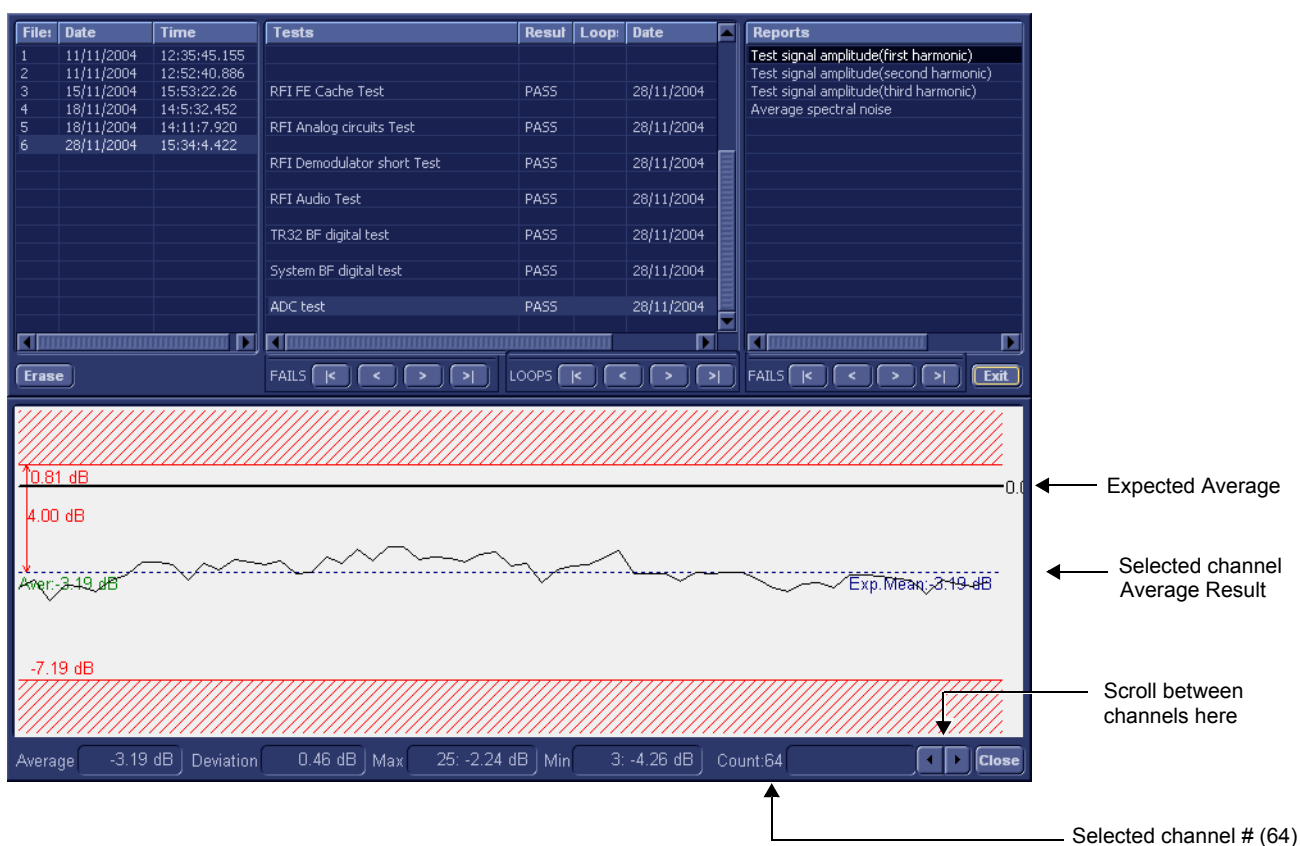

Figure 7-28 View Test Log - First Harmonic Report
- the View Test Log window opens automatically, listing all tests performed and showing details of which tests passed or failed, as shown in the example in Figure 7-28.
Note: The ADC test has four test reports which are listed in *Reports* on the right. By default, the *First Harmonic* report is displayed in the Reports window below (Figure 7-28).
NOTE: Left and right arrows provided in the View Report window enable scrolling between the different channels. Left-clicking on a currently-selected channel marks a red square on the report graph, and also evokes the display of the following information relative to that specific point: Average, Deviation (standard deviation from the Average), Max, and Min. The signal should be within the limits marked in the white area (the dotted line represents the Average), as shown in Figure 7-28.